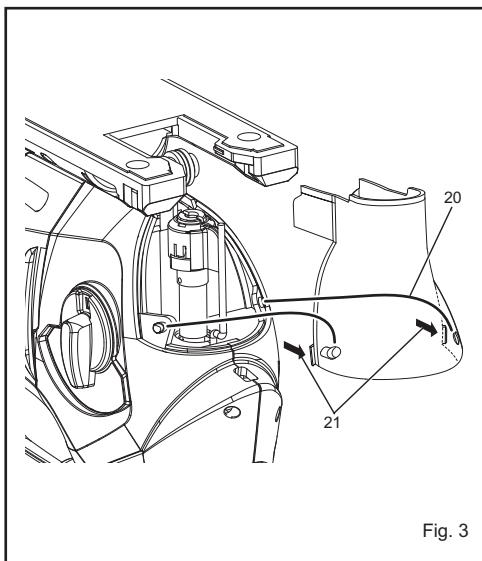

Fig. 3
*See Figure 3.*
*See Figure 3 - 4.*